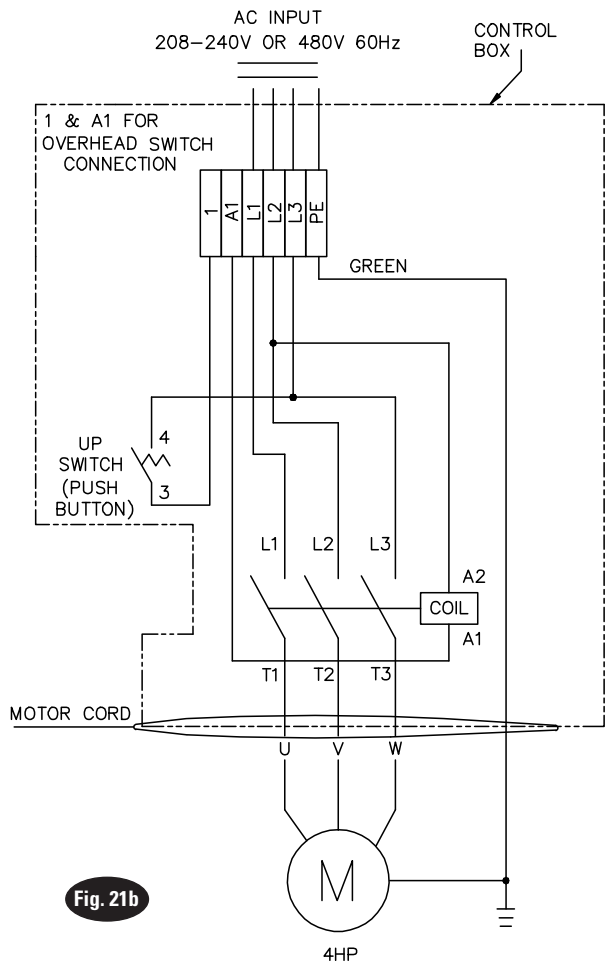

Fig. 21b
11. Electrical: Have a certified electrician run appropriate power supply to motor, Fig. 20, Fig. 21, & Fig. 21b. Size wire for 20 amp circuit. See Motor Operating Data Table.